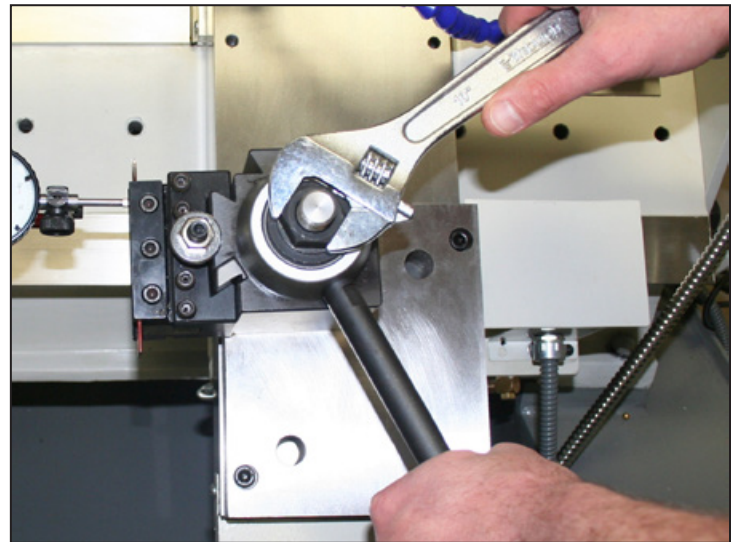

Figure 11
13. Tighten Tool Post nut securely with adjustable wrench (see **Figure 11**).